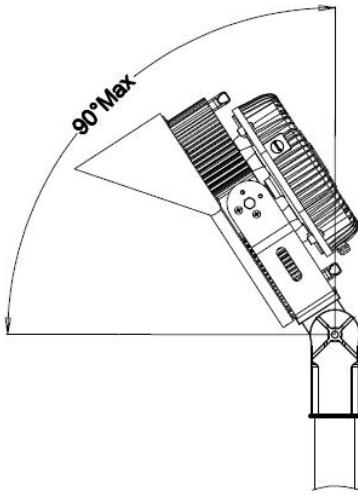
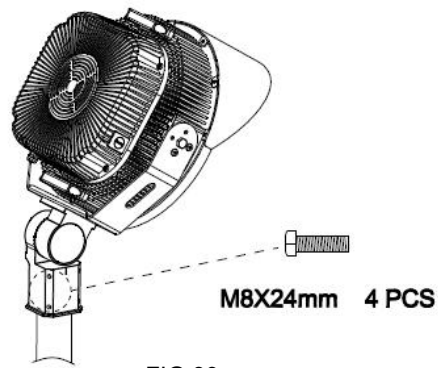

FIG.36
FIG.39
- 1) Align slip fitter bracket with U shape bracket, use 2pcs M8\*24mm bolts and nuts to fix them. Use 4pcs M8\*24mm bolts to fix slip fitter bracket on the pole. (See FIG.36 to FIG.39)